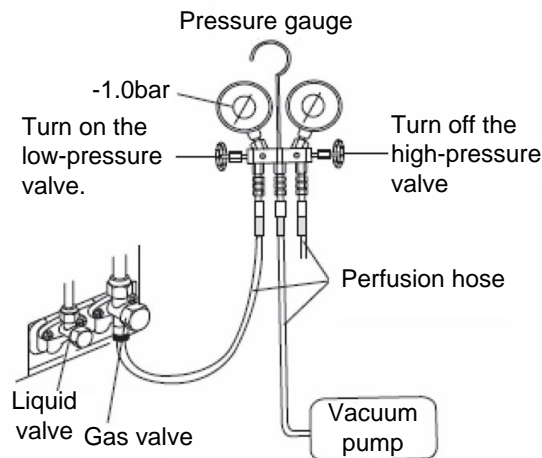

Figure 6-1 Vacuum pump connection
- 2) Connect the perfusion hose with the vacuum pump, as shown in Figure 6-1.